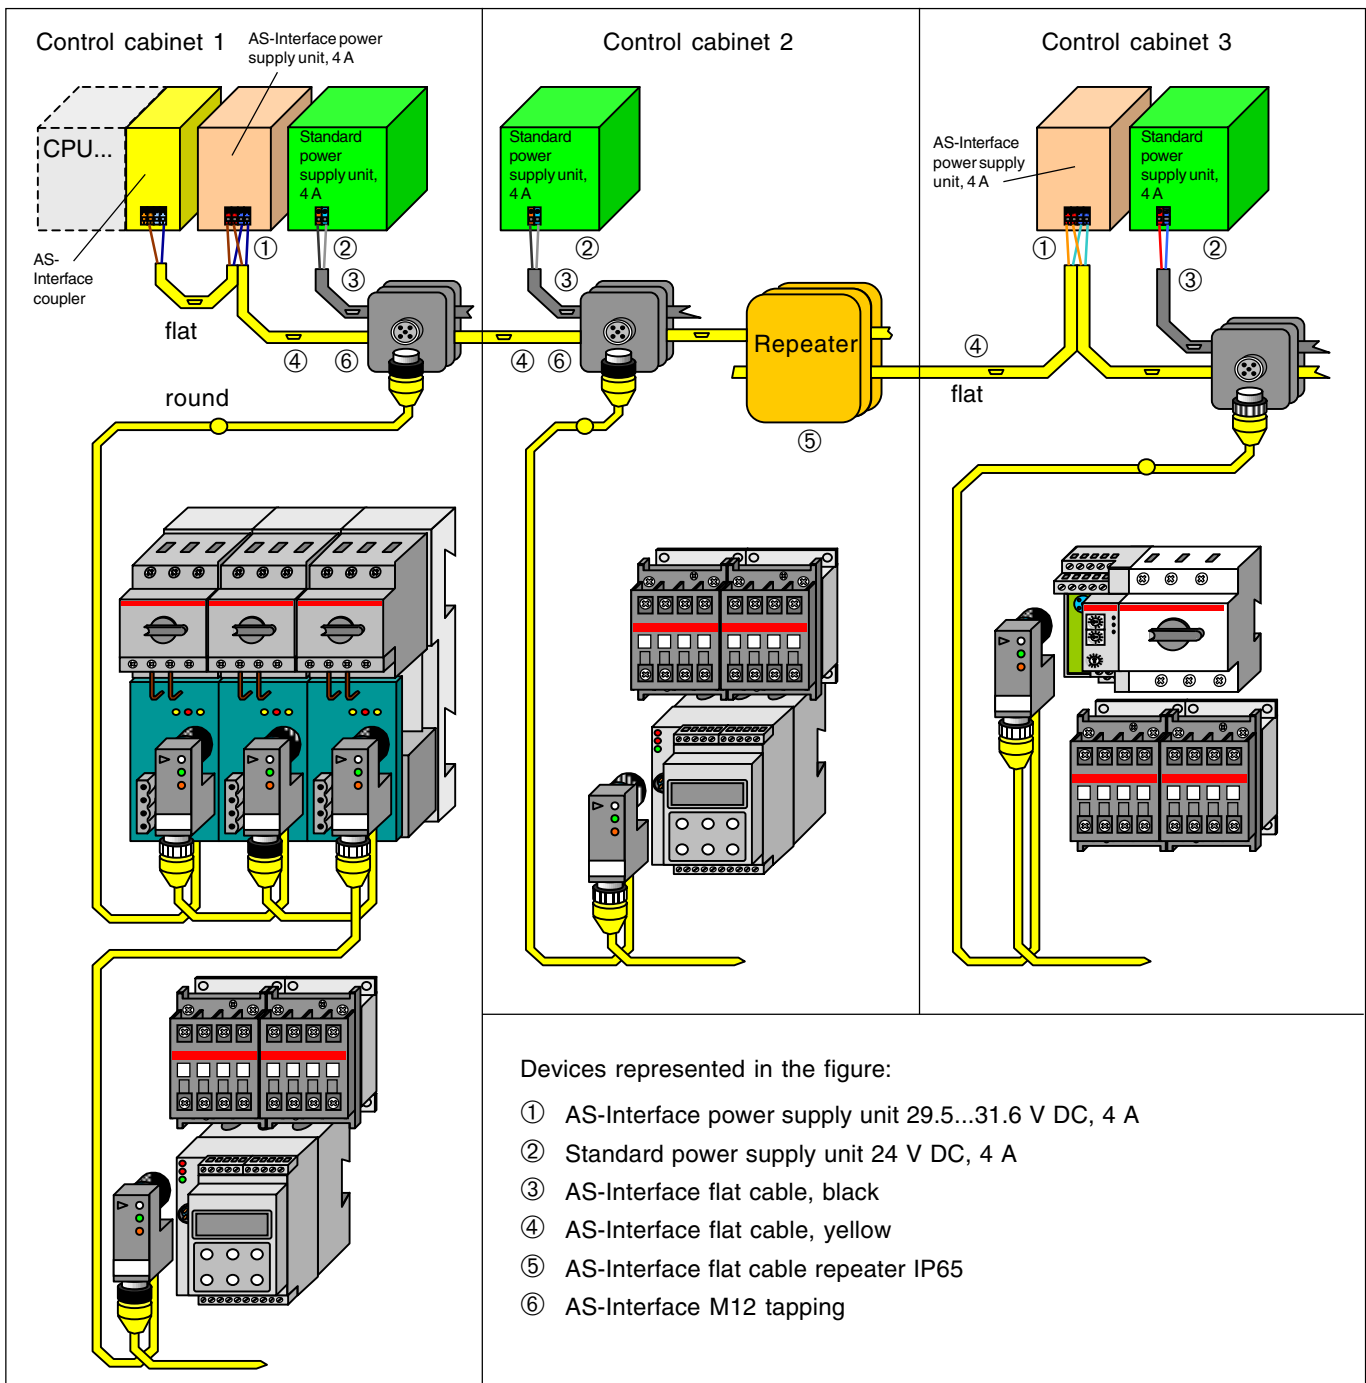

Fig. 8: AS-Interface, extended configuration
- The standard AS-Interface cable for the power supply of the terminal devices is a black flat cable. Connection is performed by using the penetration method. The cross section is 1.5 mm2 (0.024 Ω/m total resistance for both wires). In an extended configuration (Fig. 8) the yellow and the black cable are used as a trunk.